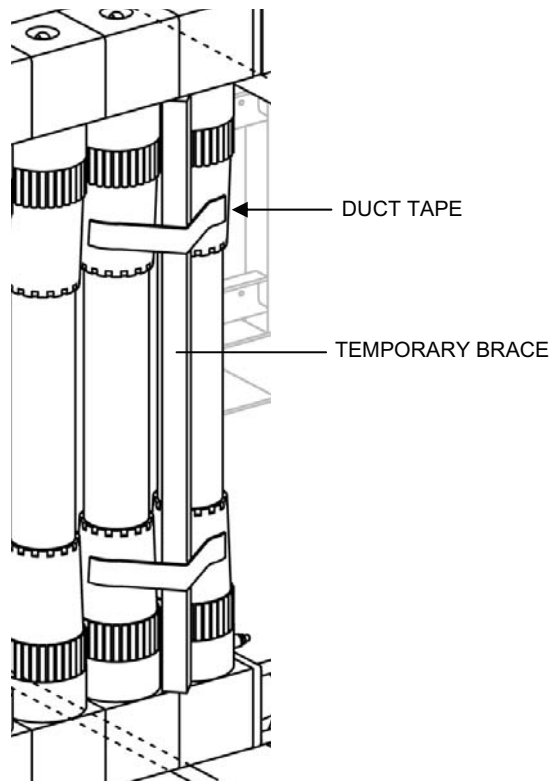

Figure 5. Temporary Bracing for MF Assembly Removal.
- a. Insert a brace, such as a 2x4 length of wood or metal, between the upper and lower MF assembly headers at both ends of the assembly and secure with duct tape, rope, or some other temporary means of keeping the brace in place (see Figure 5).